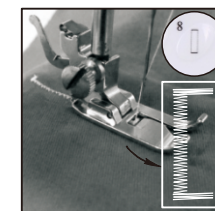

Fig.3
- (4) Choose the stitch pattern #8, then turn on switch and sew 5-6 stitch in low speed. then turn off switch (Fig.3)